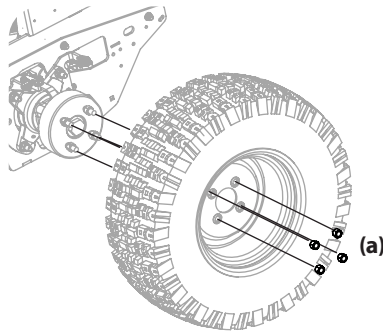

Figure 30
1. Remove the four lug nuts (a) to remove the tire. See Figure 30.
2. Reinstall the tire using the four lug nuts. See Figure 30. Torque the lug nuts (a) to 65-70 ft-lbs.